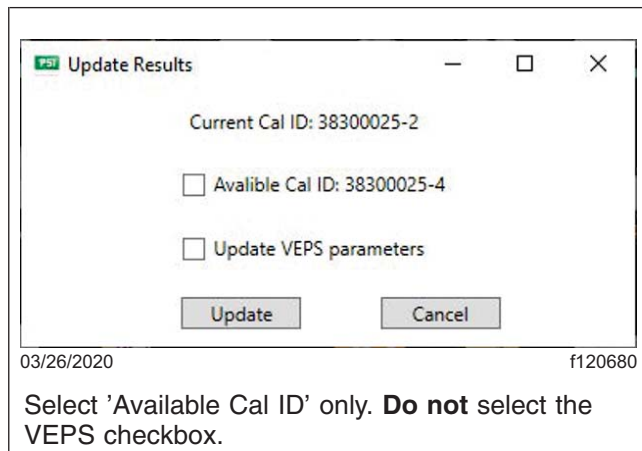

Fig. 13, Update Results, Window 1
2. Make sure you have a secure connection—key is ON, sufficient power supply, and the cable is installed—then select 'Next' and the window shown in **Fig. 13** should appear.